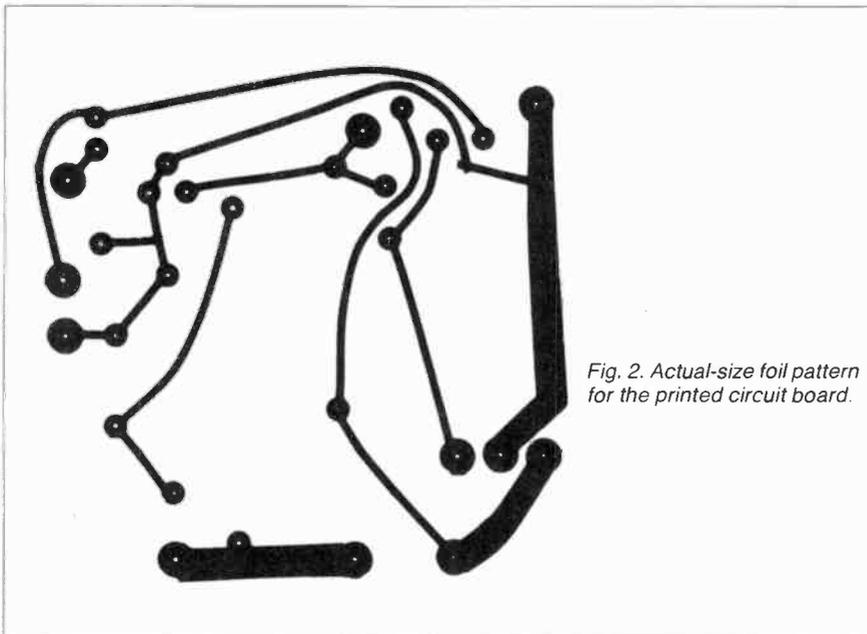
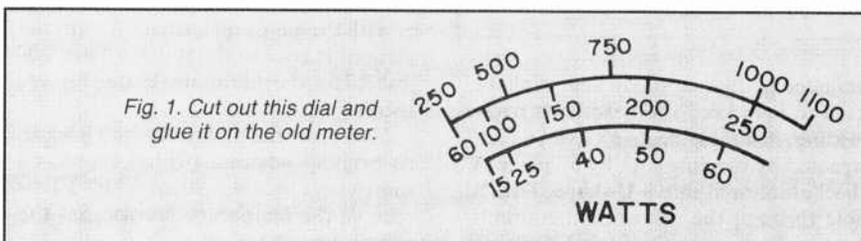

Fig. 2. Actual-size foil pattern for the printed circuit board.
Fig. 1. Cut out this dial and glue it on the old meter.
**Construction.** The circuit can be constructed on a small printed-circuit board measuring about 3" by 3". The only external components are the thermistor and optional switch *S1*. Figure 2 shows a full-size foil pattern, and Fig. 3 shows the parts layout.
Inductor *L1* can be easily constructed by winding about 15 turns of #20 enamel wire on a wood or plastic 3/8"-diameter form. The inductance of *L1* is not critical, but do not use wire of smaller gauge since *L1* must be able to carry the full load current of the blower motor without overheating. The same caution applies to the foil pattern which is shown in Fig. 2. Be sure to keep the conductive paths to the triac wide (as illustrated).
The next step is to pry off the front cover of the panel meter and replace the dial. Remove the two Phillips screws and dial, being careful not to damage the pointer. Cut the new dial from Fig. 1 and glue it over the old dial. Then reassemble the panel meter. Wire the resistors and zener diodes as shown in Fig. 2.